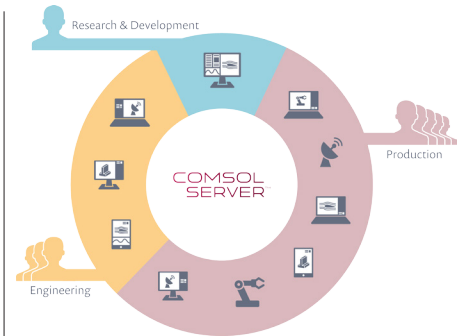

FIGURE 1: Apps are created by the R&D team using the Application Builder, and then used by other departments by connecting to the COMSOL Server™ environment.
Capacitive touchscreens (see Figure 1, top) are by far the most commonly used method of touch sensing in the electronics industry, and consist of varying layers of transparent lenses, substrates, adhesives, and indium-tin-oxide (ITO) electrodes. Together, these elements are known as touchscreen panels (TSPs) or stack-ups. Depending on the type of product in which they will be used, each stack-up and electrode pattern is customized for its intended environment and use. A stack-up (see example shown in Figure 1, bottom) contains an LCD layer, followed by a substrate, a pattern of horizontally and vertically aligned diamond-shaped ITO electrodes, and finally an optically clear adhesive layer that bonds the glass cover onto the screen.
FIGURE 1: Top: Capacitive touchscreen module. Bottom: Typical touchscreen sensor stack-up where a stylus' position is detected because of the change in the electrodes' coupling capacitance.
and whether the “touch object” is moving in a certain direction. To achieve this, a capacitive sensor is composed of a pattern of horizontally and vertically connected ITO electrodes, where a touch object is sensed at the grid intersection. When a finger or stylus touches the screen’s surface, it distorts the electrostatic field and causes a measurable change in the coupling capacitance between the transmitting and receiving electrodes (see Figure 1, bottom).
THE COMSOL MULTIPHYSICS® software and the Application Builder allow R&D engineers to share their simulation expertise with others in a way that is fast, easy, and customizable (see Figure 1). With the Application Builder, an R&D engineer can readily build an intuitive interface around any COMSOL® software model and customize it for the application's intended use. The resulting simulation app retains the functionality of the original model, but has a simplified user interface (UI) through which the app user can only edit certain inputs, materials, geometry, or other parameters, and then recalculate the new design's expected performance. Such an app can be created from within a single software environment using COMSOL Multiphysics.
FIGURE 1: Top: Concept behind WiTricity's technology, including coils, electronics that control power output and regulation, and wireless communication between the source and capture devices to ensure the correct power output. Bottom: The technology supports charging through surfaces of different materials (left); the wireless range may be extended using resonant repeaters (right).
A capture device, which acts as a receiver and captures the magnetic field, contains another coil tuned to the same frequency as the source (see Figure 1).